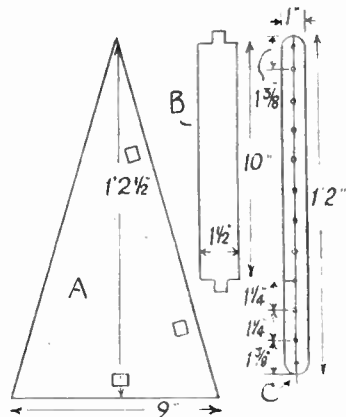

Fig. 1—Framework details
It is of simple construction. The necessary parts of the frame are shown in Fig. 1, and can be made from any available wood, a convenient thickness being  $\frac{1}{2}$  in. The sides (A) can be drawn out direct to the wood, being simple triangles.